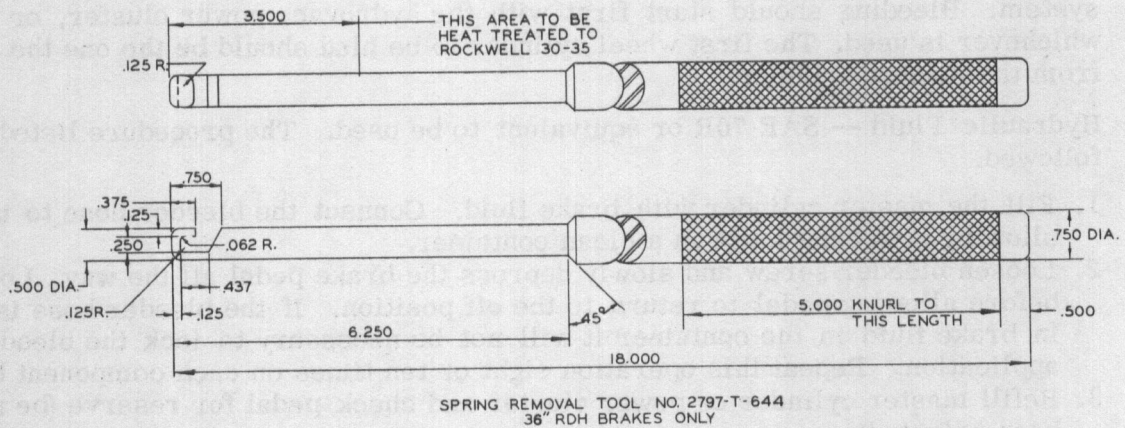

Fig. 19
2. Remove all brake shoe return springs (8), using spring tool shown in Fig. 19.